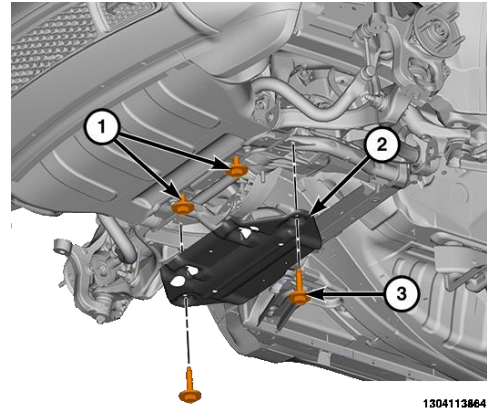

Figure 3 – Front Suspension Skid Plate
9. Remove the front suspension skid plate (2) by loosening the front bolts (1), removing the rear bolts (3), then the skid plate (Figure 3).